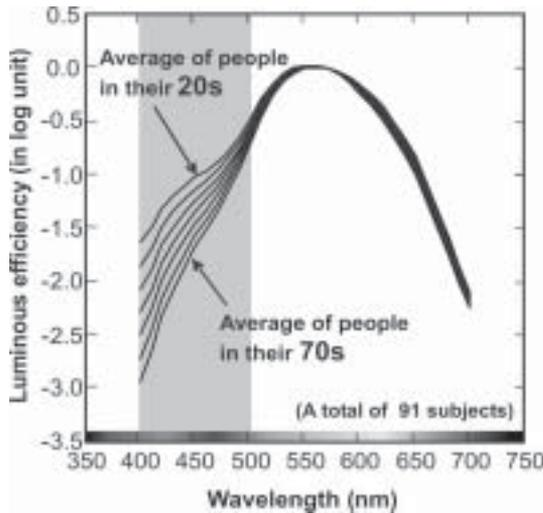

Figure 2. Luminous efficiency functions for different age groups from those in their teens to those in their 70s measured by flicker photometry [2].
Figure 2 shows the data of SLE taken from a total of 91 people with different age [2]. The data are classified into 7 decades from 10 years old up to 80 years old. It is clear from these data that luminous efficiency of light to the shortwave stimuli gradually decreases with age. This means a light colored purple or blue looks darker to older people. Care for accessibility of visual signs should be
By using the luminous efficiency data shown in Figure 2, a technical guideline can be given for the evaluation of brightness of visual signs. In equation (1), a quantity denoted as age-related relative luminance, $L_{(a)}$, is introduced to evaluate the brightness of any colored light that appears to a person at any age;
where $L_{e,\lambda}$ means spectral radiance and $V_{(a)}(\lambda)$ is luminous efficiency of age a (in decade) as shown in Figure 2. Maximum efficacy K_m is omitted here to avoid the confusion with the currently defined CIE luminance L . With this newly defined quantity, $L_{(a)}$, we can evaluate apparent brightness of colours for a person at any age.